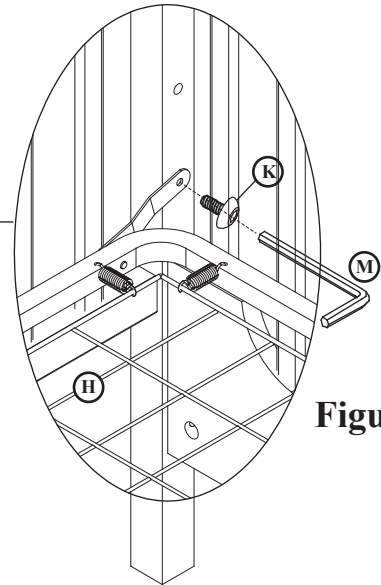

Figure 5A
Locate the metal spring (H) with tabs. Be sure the smooth side of metal spring is paced upward. Position the tabs of metal spring to mount to selected position onto the legs. Insert the 3/4" bolts(K), through the tabs and into thread insets onto the legs, then tighten securely with Allen wrench(M) See the Figure 5A.